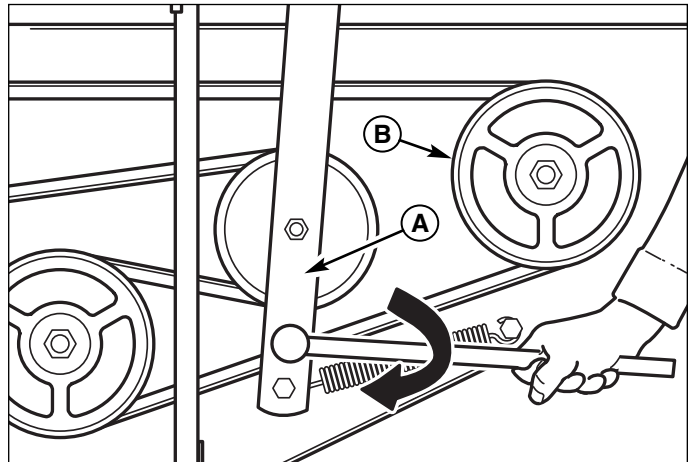

Figure 22. Spindle Drive Belt Removal
3. If belt is not properly seated, use a 1/2" breaker bar, and place the square end in the square hole located in the end of the idler arm (A, Figures 22). Carefully rotate the breaker bar **CLOCKWISE**, which will relieve the tension on the belt exerted from the idler arm.